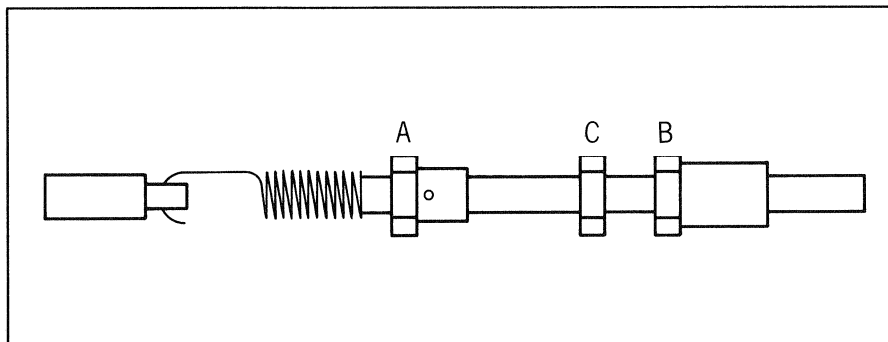

Fig. 3.1.5-5
- Turn nut [A] to adjust the length of the spring until you get  $\Delta V = 2V$ . (see Fig. 3.1.5-5). ( $V_1$  and  $V_2$  for the moment not important!)